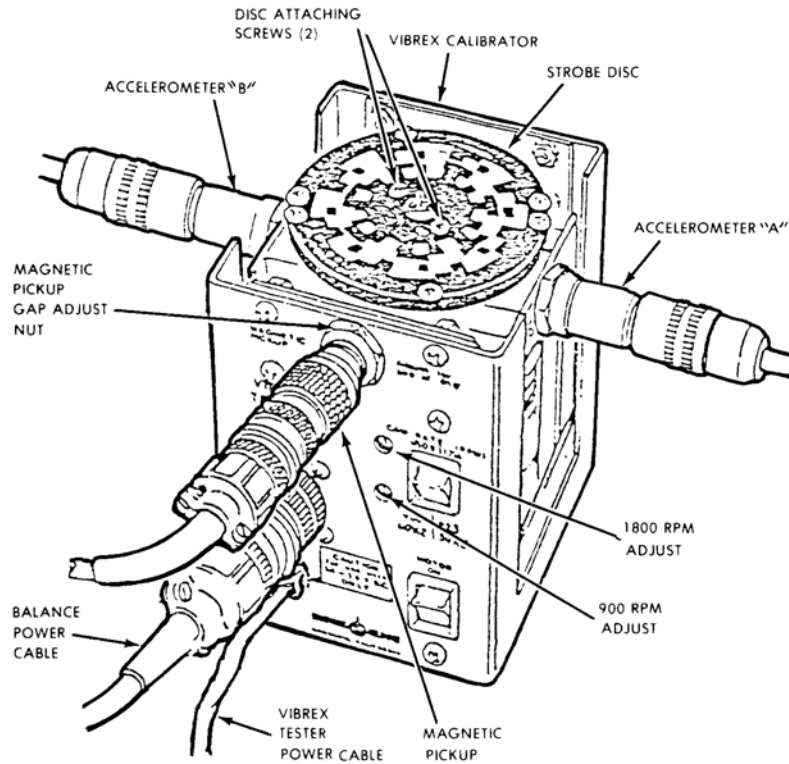

Figure 1. Calibrator, Model 11, accelerometer and magnetic pickup installation.
- a. Screw magnetic pickup and two accelerometers into their respective holes on TI (fig. 1). Do not connect any cables at this point.
(1) View rotor disc under ordinary fluorescent room lights (60 Hz) and adjust TI 1800 RPM adjust (fig.1) until outer ring appears stopped. Frequency counter will indicate 30 ± 1 Hz.
- (2) Set TI **CAM RATE (RPM)** switch to **900**.
- (3) Adjust 900 RPM adjust (fig.1) until next ring on the rotor disc appears stopped. Frequency counter will indicate 15 ± 1 Hz.
- (4) Set TI **MOTOR ON** switch to down position.
- (5) Disconnect lead from magnetic pickup on TI.
- (6) Replace two opposite pairs of interrupter screws on TI rotor disc.